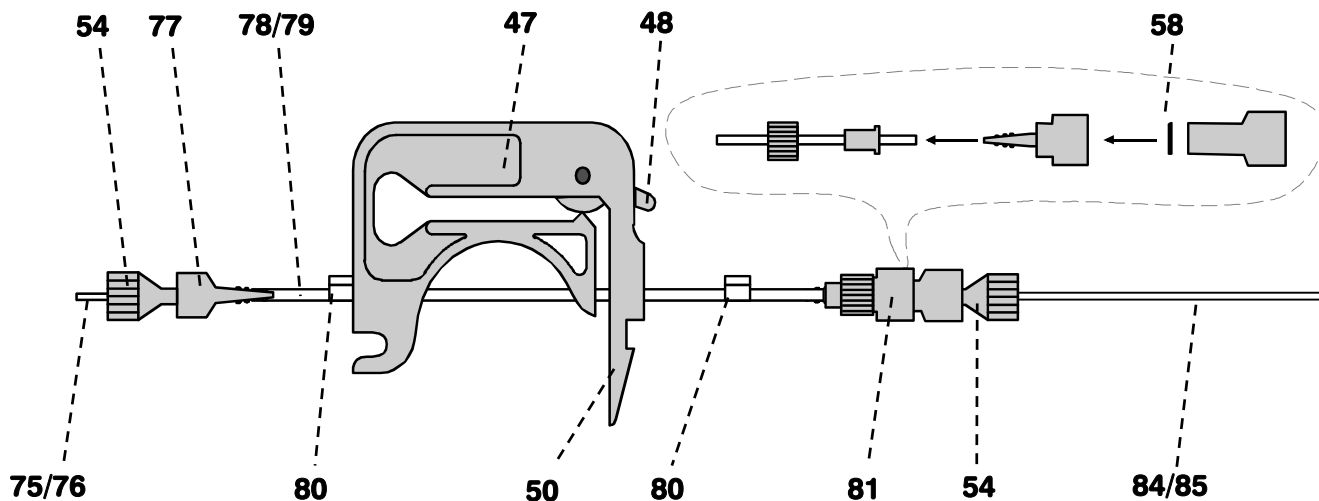

Figure 15: Installing pump tubings
Before start-up the accessories for the 2-channel peristaltic pump built into the 861 Advanced Compact IC must be mounted according to *Figure 15*. Proceed as follows:
- Insert the pump tubings **78** and **79** (6.1826.110) into each of the tubing cartridges as shown in *Figure 15*. The orange-yellow stopper **80** must click into the corresponding holder on the left-hand side of the tubing cartridge.
- Attach PEEK coupling **77** to the aspiration end of pump tubings **78 / 79** (see *Figure 15*).